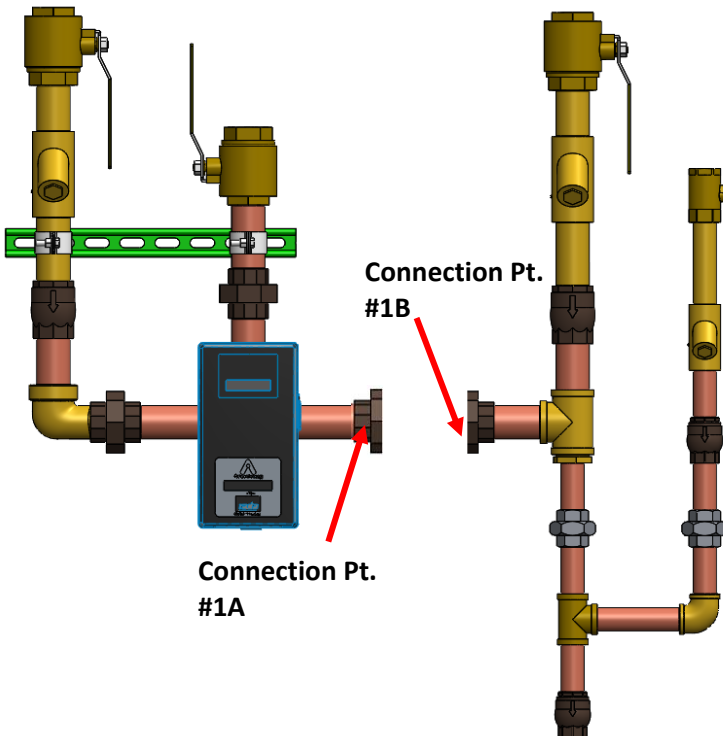

Figure 6: Sub-Section #1 to #2 Assembly
5. With Sub-Section #1 mounted, take Sub-Section #2 and make the appropriate connections at Connection Pt. #1A and #1B using a pipe wrench (*see Figure 6*)